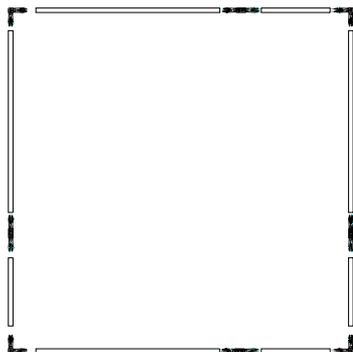

Figure 14: Diagram of 3 ft x 3 ft frame
- 1 Build the 3 ft x 3 ft frame structure as shown in Figure 14 using four 2 ft aluminum frame tubing pieces, four 1 ft aluminum frame tubing